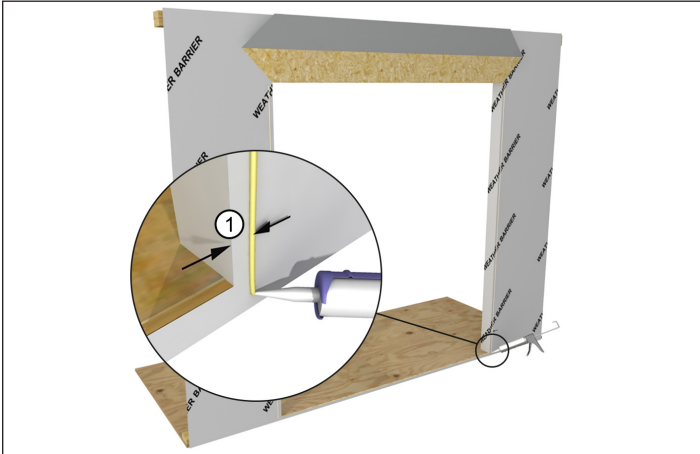

Figure 9
1. Only if casing is applied, after the rough opening has been prepped (using either the air barrier or building paper methods), apply a continuous bead of sealant 3/4" (19) from the top and sides of the door opening. See Figure 9.